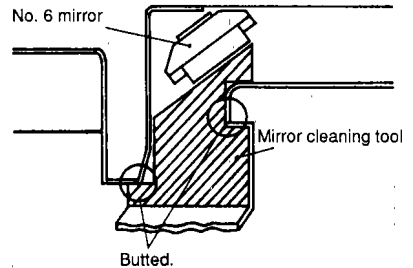

Figure 4-22
- 2) Put the mirror cleaning tool against the mirror as shown in Figure 4-22, and clean the lens by sliding it back and forth.